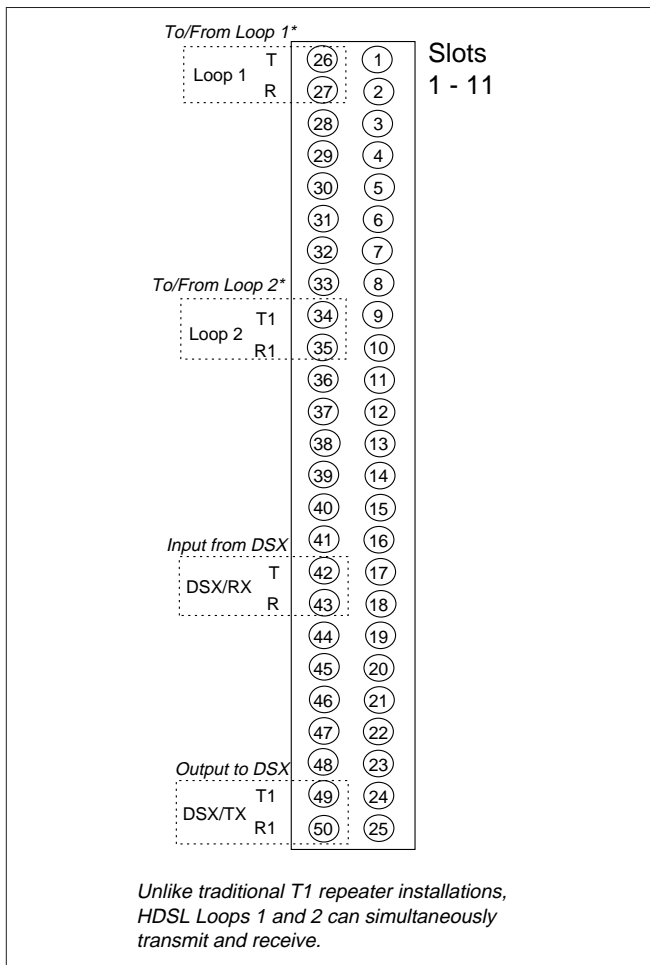
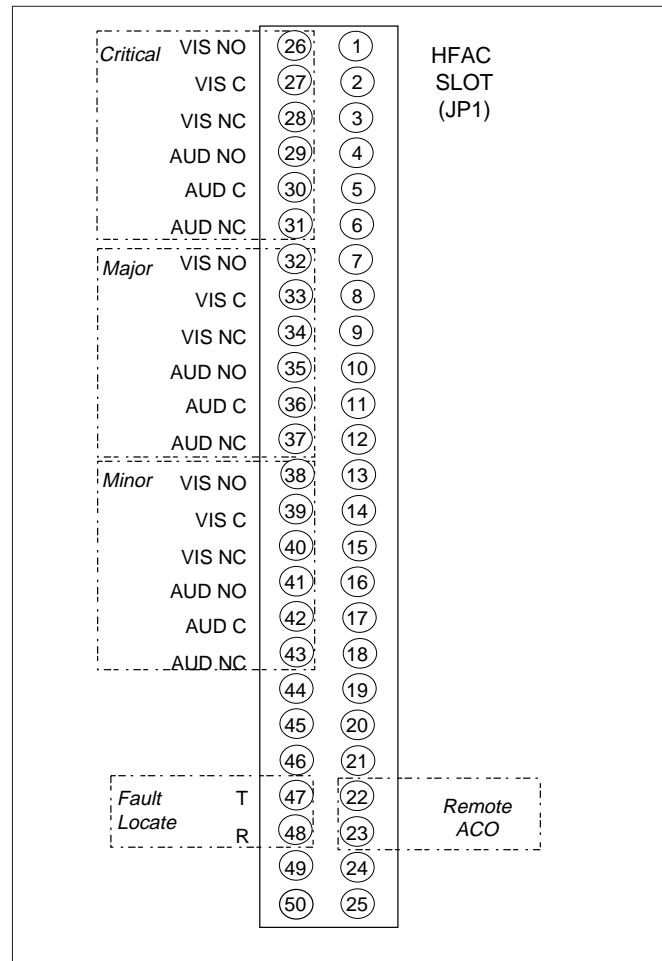
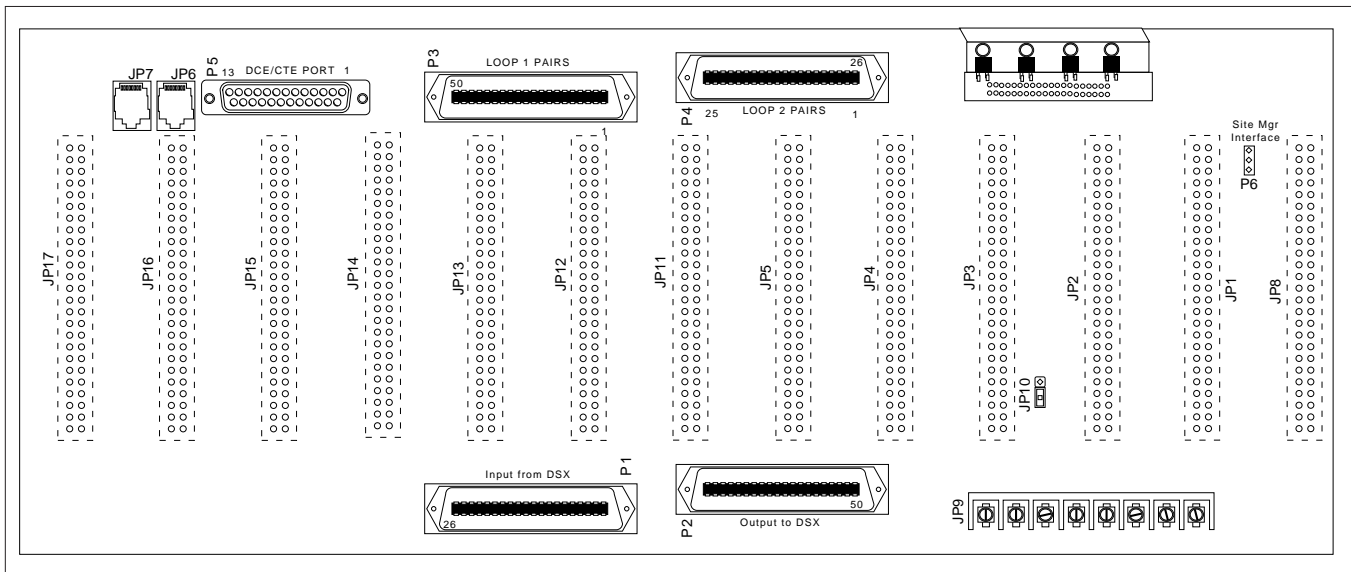

Figure 3. HTU-C Slot Wire Wrap Connections
Figure 4. HFAC Controller Slot Wire Wrap Connections
Figure 6. Signal I/O Connector Locations
**Locations:** Power and ground connections are located on JP9, an 8-position barrier strip in the lower right corner of the backplane (Figure 2). Also located on the barrier strip are local alarm connection lugs for fuse and Bipolar Violation (BPV)/Loss of Signal (LOS) alarms. Controller-to-shelf communication ports (JP6 and JP7) are located at the upper left corner of the backplane along with a DB25 connector that serves as a DCE/DTE configurable communications port (see Figure 6). All other connections to the shelf can be made directly to each wire wrap connector (see Figure 3 and Figure 4) as required by the application.
If the shelf is equipped with a shelf controller, a set of alarm relay contacts is provided through backplane wire wrap connections (see Figure 4). Wiring can be made to appropriate pins on JP1 for normally open or normally closed connections for an alarm condition.
After wiring for alarms, attach the signal wires as required. There are eleven connectors labeled 1-11 that are available for wire wrap connection to the signal wires. Use the appropriate wire size and wire wrap tool to connect the signal wires to the .031-inch square posts (see Figure 3 for DSX-1 and HDSL loop connection pin numbers). These correspond to the standard signal connections used in T1 office repeater applications.
Figure 6 identifies the connector locations on the backplane. The P1-P4 connectors are AMP P/N 554758-1 or equivalent male plugs.